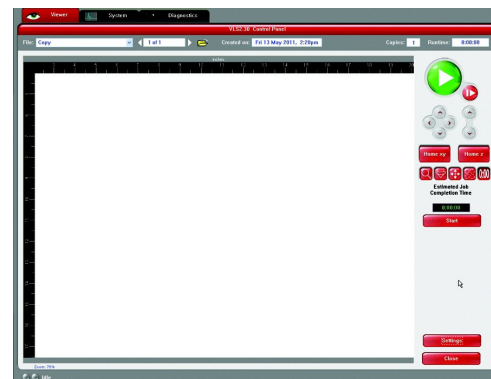

Figure 6
8. Launch the UCP by selecting the square red UCP icon on the taskbar and the current print job will appear in the Tab Viewer of the Universal Control Panel (Figure 6).
4. Press the green START button on the UCP to begin laser processing (Figure 6 on previous page).